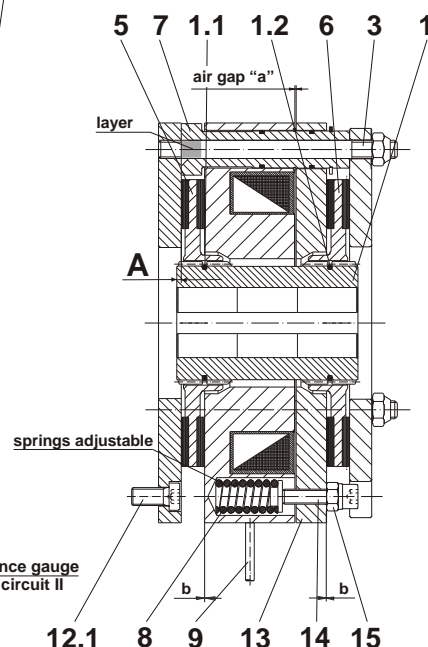

Fig. 3
- ☐ The dimension "A" (Fig. 3 and Table 2) is to be maintained.
- Mount gear hub, compl. (1) to the shaft acc. to Fig. 3, **observe dim. "A" acc. to Table 2 and Fig. 3, observe the complete supporting length of the keyway**, and lock it axially (e.g. with a retaining ring).
- If necessary, assemble flange plate (12) using the cap screws (12.1) (observe tightening torque acc. to Table 2).
- Push rotor 1 (5) manually with a slight pressure via O-rings (1.1 and 1.2) onto the gear hub (1) (rotor hub nose away from machine wall/flange plate). Rotor must slide smoothly over hub. No damage of the O-rings.
- Manually turn double end stud (3) **with coated side of thread** until coating (screw in limitation) into the tapped holes of the brake screw-on surface (machine wall) or with flange plate until contact (secure it with LOCTITE 243).
- Push brake body (2) over double end studs (3).
- Push rotor 2 (6) manually with a slight pressure (via O-ring) (1.2) onto the gear hub (1). (Rotor collar shows in direction of flange plate/machine wall). Rotor must slide smoothly over hub. No damage to the O-ring.
- Push brake plate (16) over double end studs (3).
- Uniformly attach the brake using the hexagon nuts (4). (**Tighten hexagon nuts with a torque wrench**) **Observe tightening torque according to Table 2.**